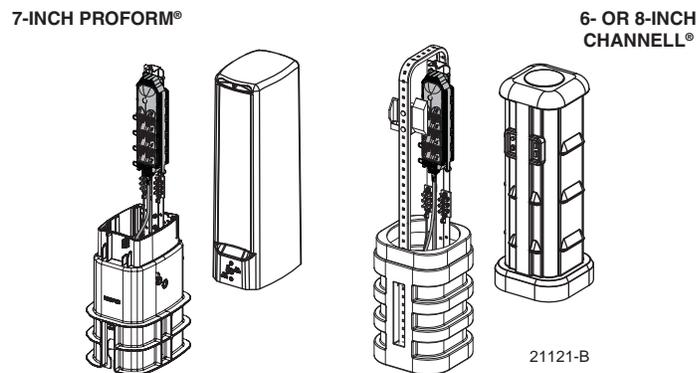

Figure 7. Pedestal Mounting
- **Pedestal Mounting** (at final grade) – Pedestal enclosures (examples shown in Figure 7) may be used for mounting the MST at ground level. Pedestal enclosures consist of a base assembly and a top cover. The base assembly mounts partly in the ground. Cables and conduit enter the base assembly from the bottom.